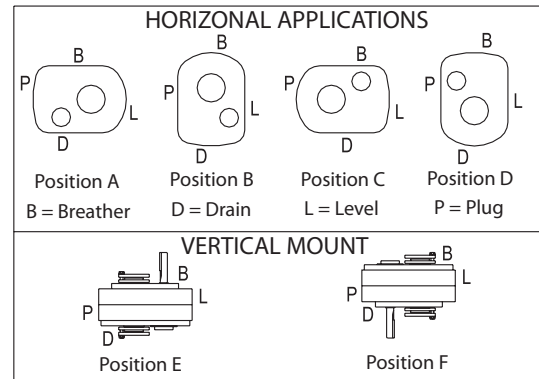

Figure 3 - Mounting Positions
2. Determine the running positions of the reducer. (See Fig. 3) Note that the reducer is supplied with 6 plugs; 4 around the sides for horizontal installations and 1 on each face for vertical installations. These plugs must be arranged relative to the running positions as follows:
Vertical Installations - Install the filter/ventilation plug in the hole provided in the upper face of the reducer housing as installed. If space is restricted on the upper face, install the vent in the highest hole on the side of the reducer per Figure 3 using the optional vertical vent kit. Install a plug in the hole in the bottom face of the reducer. Do not use this hole for the magnetic drain plug. Install the magnetic drain plug in the lowest hole on the sides of the reducer. Of the remaining holes on the sides of the reducer, use the plug in the upper housing half for the minimum oil level plug.
The running position of the reducer in a horizontal application is not limited to the four positions shown in Fig. 3. However, if running position is over 20° in position "B" & "D" or 5° in position "A" & "C", either way from sketches, the oil level plug cannot be used safely to check the oil level, unless the reducer is swung to within 20° for position "A" & "C" or 5° for position "B" & "D" of the positions shown in Fig. 3. Because of the many possible positions of the reducer, it may be necessary or desirable to make special adaptations using the lubrication filling holes furnished along with other standard pipe fittings, stand pipes and oil level gauges as required.
3. Use lifting tab to hoist screw conveyor drive into position. Slide shaft into screw and adapter over trough end studs. Only one set of adapter holes will fit over the trough end studs. If the mounted position of the screw conveyor drive varies more than 15° from any of the four horizontal mounting positions shown in Fig. 3, an incorrect set of holes has been selected for coupling adapter to reducer. This can be corrected by removing adapter screws and rotating the reducer to its proper position. Reinstall and tighten adapter screws to torque specified in Table 5. Install lockwashers and tighten nuts on trough end studs. Attach drive shaft to screw.
① Oil quantity is approximate. Service with lubricant until oil runs out of oil level hole.
② Refer to Figure 3 for mounting positions.
③ US measure: 1 quart = 32 fluid ounces = .94646 liters.
④ Conversion from quarts rounded values.
⑤ Below 15 RPM output speed, oil level must be adjusted to reach the highest oil level plug. If reducer position is to vary from those shown in Figure 3, either more or less oil may be required. Consult Dodge.